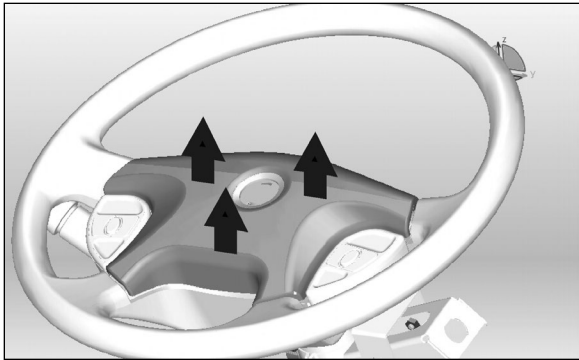

FIGURE 47: REMOVING THE HORN PAD
2. Pull the horn pad straight up gently to detach it from the steering wheel (Figure 47).